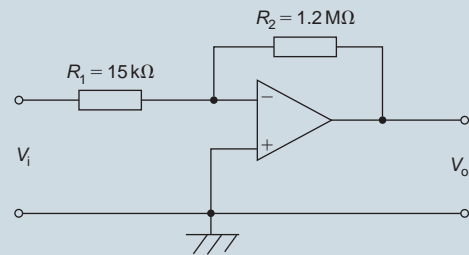

Figure 21.7
5. The op amp shown in Fig. 21.7 has an input bias current of 90 nA at 20°C. Calculate (a) the voltage gain and (b) the output offset voltage due to the input bias current.